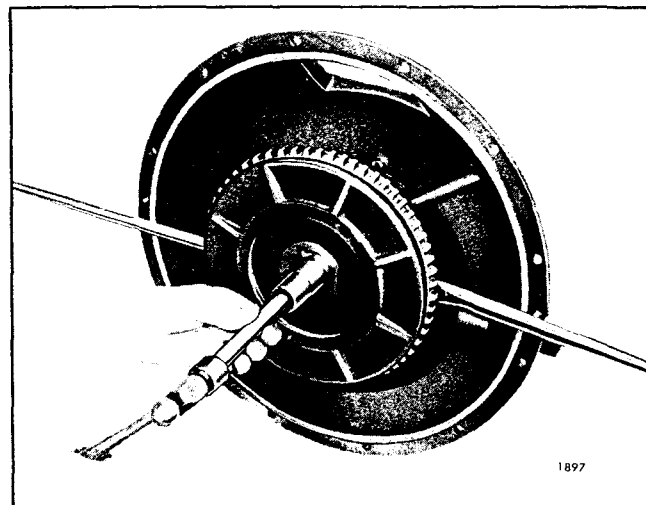

Fig. 9 - Removing Clutch Assembly from Clutch Drive Shaft
8. Place pry bars behind the inner clutch pressure plate as shown in Fig. 9. While exerting pressure on the outer ends of the pry bars, loosen the clutch assembly from the tapered shaft and key with a brass drift and hammer as shown in Fig. 9.